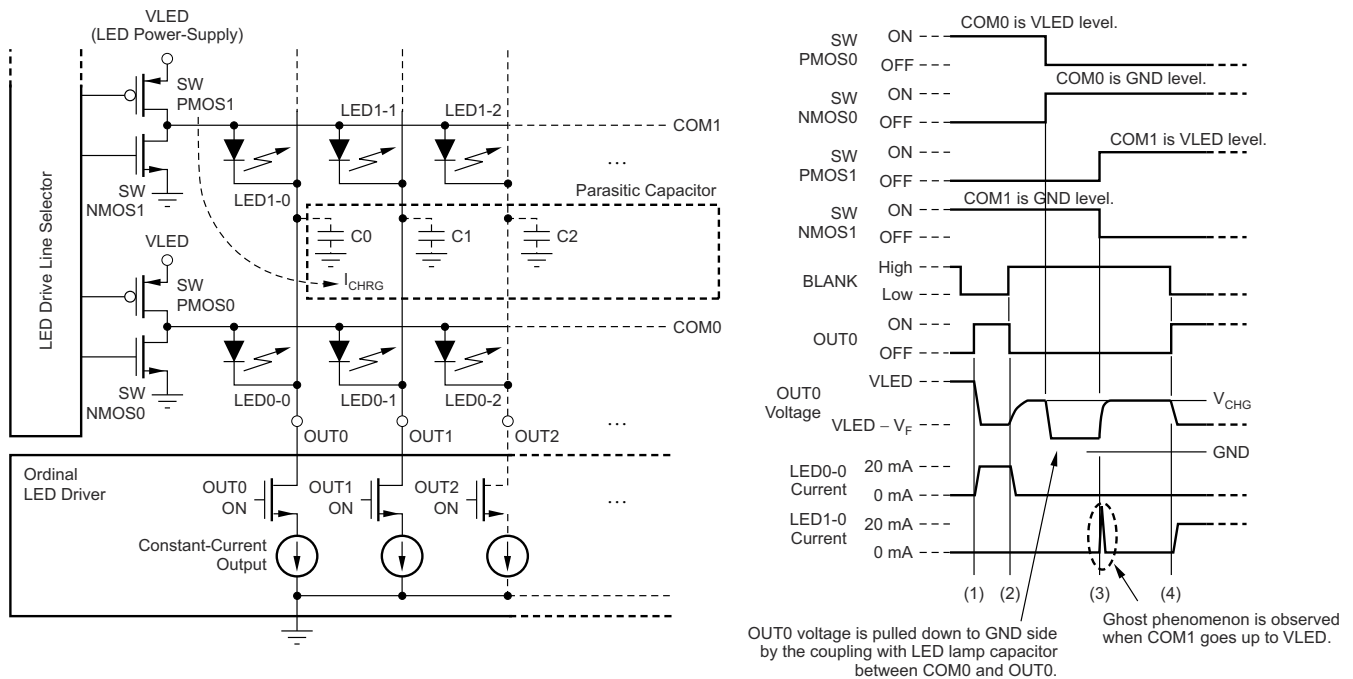

Figure 7-1. LED Ghost-Lighting Phenomenon Mechanism
The internal pre-charge FET prevents ghosting of multiplexed LED modules. One cause of this phenomenon is the parasitic capacitance charging current of the constant-current outputs (OUT_n) and PCB wiring connected to OUT_n through the LED. One of the mechanisms is shown in Figure 7-1.
In Figure 7-1, the constant-current driver turns LED0-0 on at (1) and off at (2). After LED0-0 is turned off, the OUT0 voltage is pulled up to V_{CHG} by LED0-0. This OUT0 node has some parasitic capacitance (such as the constant-current driver output capacitance and the board layout capacitance shown as C0-2). After LED0-0 turns off, SWPMOS0 is turned off, SWNMOS0 is turned on for COM0, and COM0 is pulled down to GND. Because there is a parasitic capacitance between COM0 and OUT0, the OUT0 voltage is also pulled down to GND. Afterwards, SWPMOS1 is turned on for the next common line (COM1). When SWPMOS1 turns on, the OUT0 voltage is pulled up from the ground voltage to V_{LED} - V_F. The charge current (I_{CHRG}) flows to the parasitic capacitor (C0) through LED1-0, causing the LED to briefly turn on and creating a ghosting effect of LED1-0.